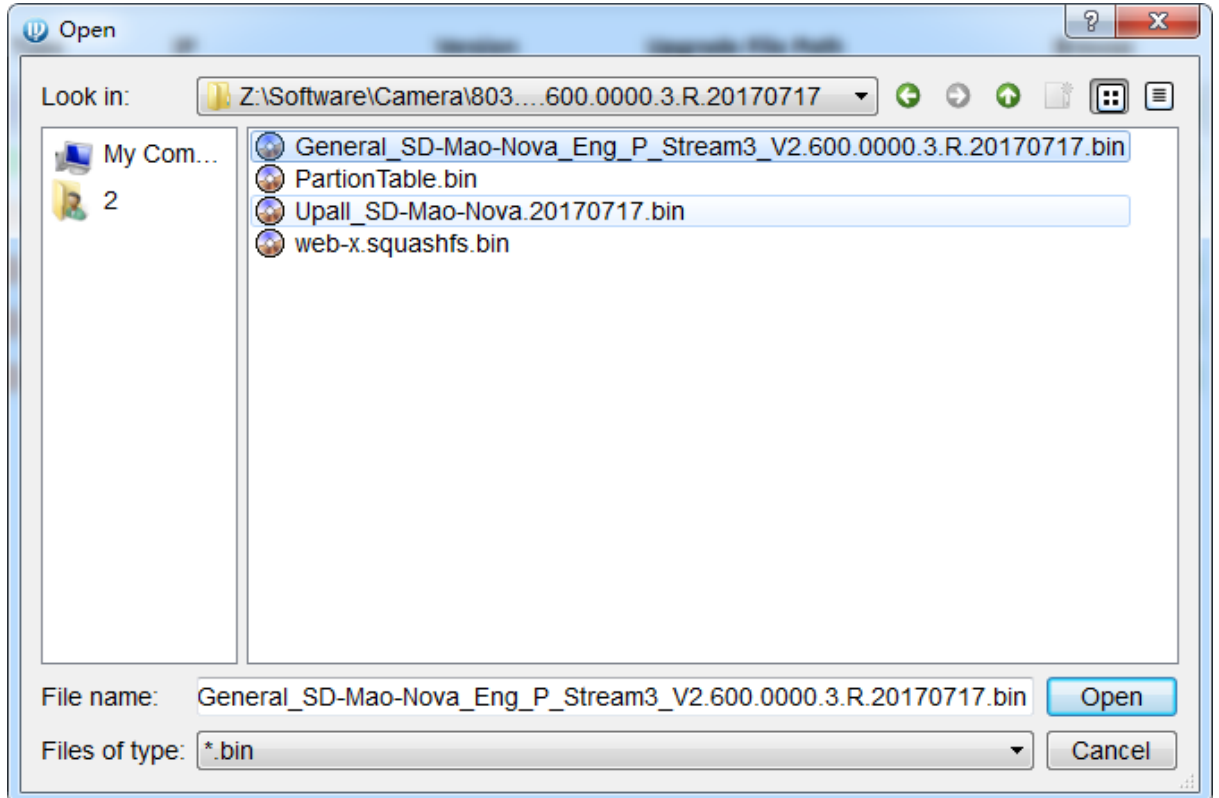

Figure 4-3
Step 7 Select upgrade file, as shown in Figure 4-3.